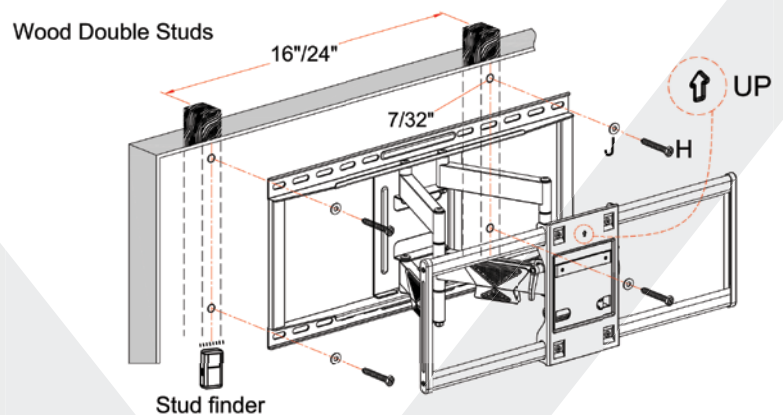

Figure 2 (keep the wall plate level)
- Insert anchor (I) into each of the holes. Tap until flush with concrete surface
- Fix the wall plate by using the lag bolt screws (H) and washers (J) (Figure 2)